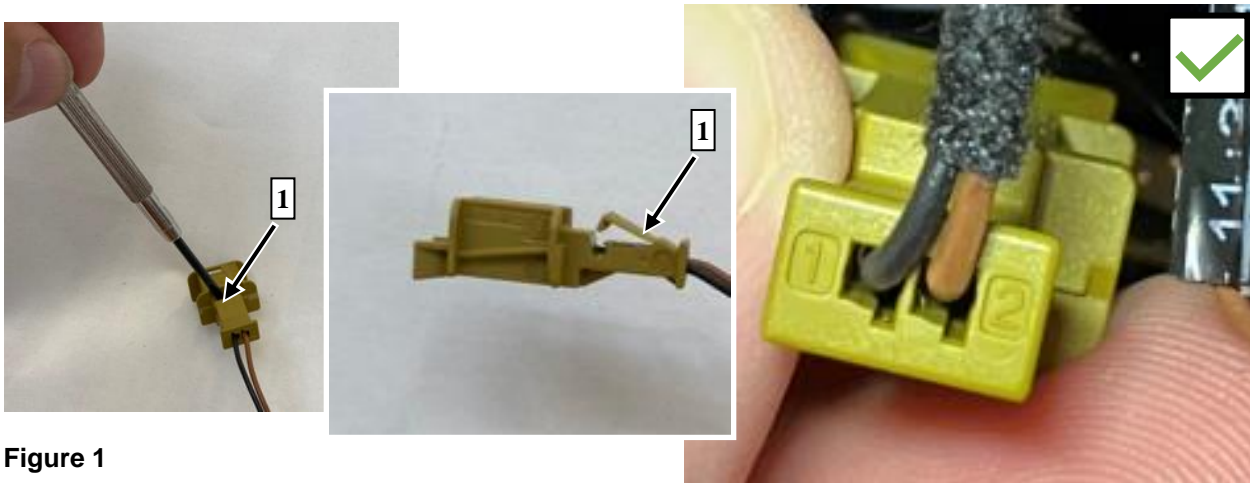

Figure 1
- i** Correct polarity: **Pin 1 = black (ground/negative); Pin 2 = brown (positive/+)** (Figure 1)
1. Carefully open the secondary lock of the connector (**Figure 1, 1**) and check/correct polarity.